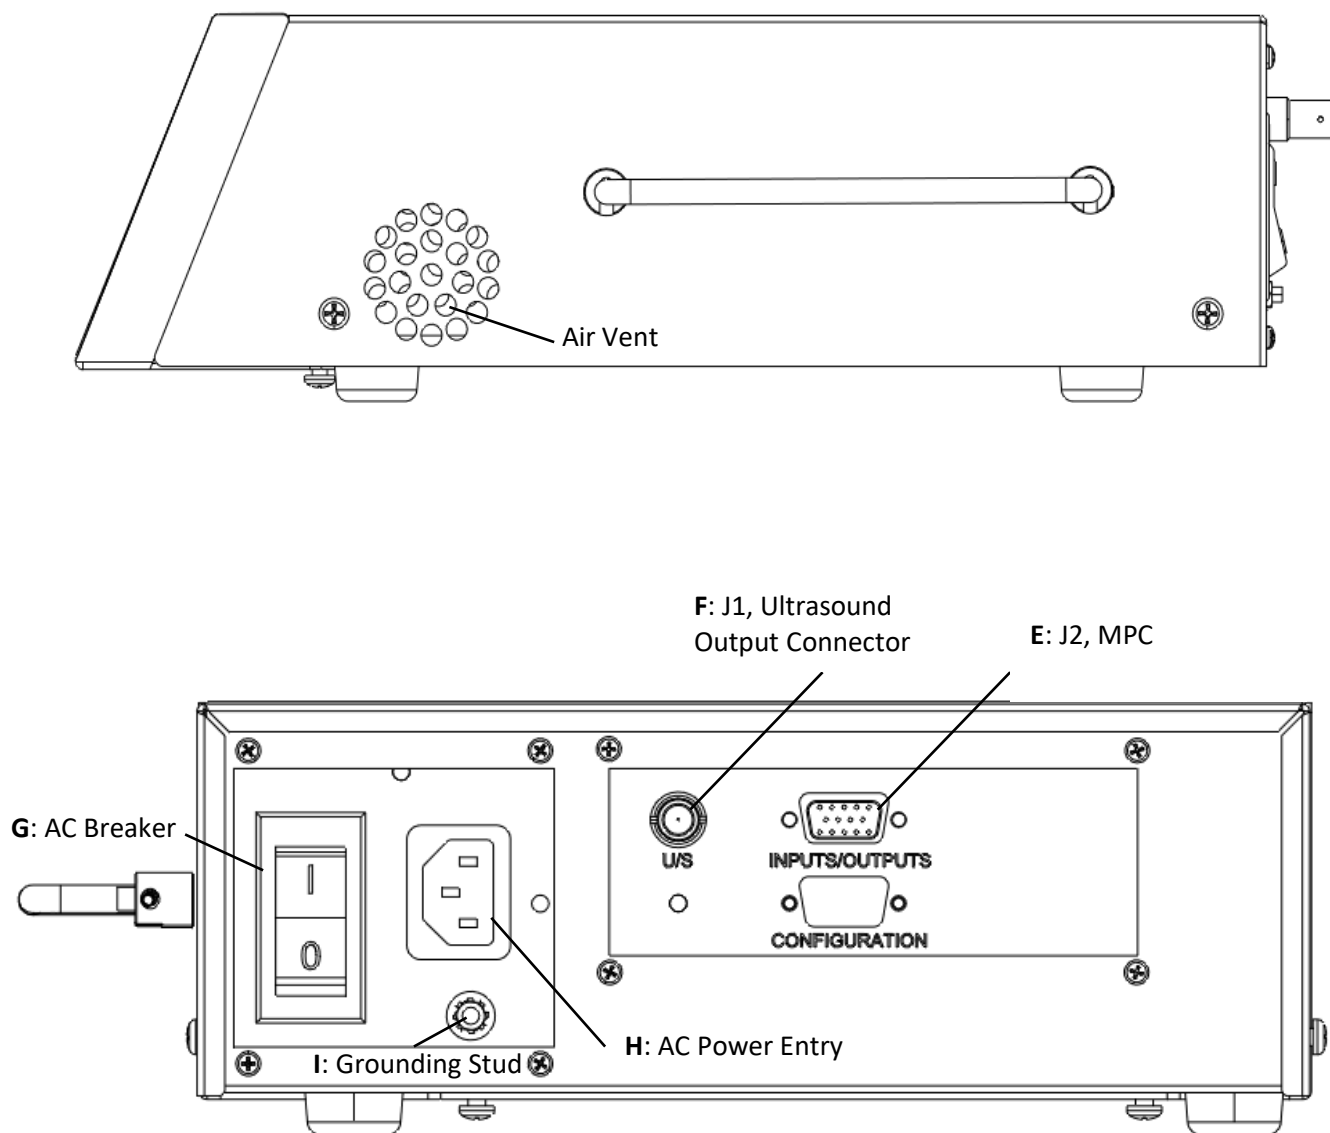

Figure 4. Side and Rear views of the generator.
In addition to the safety considerations previously mentioned, proper grounding of the generator power cord is recommended for the effective suppression of electrical noise or RFI (Radio Frequency Interference). Every ultrasonic generator contains a RFI filter which blocks noise on the AC power line from entering the system control circuitry. This filter also prevents ultrasonic frequency noise from being fed back into the AC power line. In order for the RFI filter to operate properly, it is necessary to correctly ground the system. For best results, you may additionally run a grounding wire from the ground stud connection (I in Fig. 4) to the nearest grounded metal pipe or equivalent earth ground and secure it with a ground clamp.
- Connect the supplied AC power cord to the generator's Power Cable Input (H in Fig. 4). Do not plug the cord into the power outlet yet.
- Ground the generator chassis with the supplied 14-gauge wire. Attach one end the grounding stud (I in Fig. 4) and attach the other end to the nearest grounded metal pipe or equal earth ground.
- Attach the ultrasound cable between the transducer and the Ultrasound Output Connector (**F** in Figure 4).
The Power Switch/Circuit Breaker (**G** in Fig. 4) has a rocker type actuator switch that will activate or deactivate the AC power to the system. The power **ON** position is marked with the internationally recognized **I** symbol, the power **OFF** position is marked with the **O** symbol. This power switch also integrates an appropriately sized over-current protection circuit breaker in the generator.
The Inputs/Outputs (I/O) connector (**E** in Fig. 4) includes connections for all basic generator control input and output signals that will typically be associated with an automated control system. A cable attached to this connector includes all available system control signals, which can be controlled by an output card or output port on a controller.
The Ultrasound Output Connector (**F** in Fig. 4) is a high-voltage (5,000 V) coaxial style SHV-BNC connector. This connector provides superior shielding of electrical noise compared to other types of connectors. The ultrasound output connector mates with a fully shielded coaxial ultrasound cable that is secured with a simple and reliable quarter-turn bayonet style attachment mechanism.
The Ultrasound Input Connector (attached to the Ultrasound Input Cable) is a SHV-BNC high-voltage connector. It provides superior shielding of electrical noise and mates with a corresponding connector on a fully shielded coaxial ultrasound cable that on the other side is attached to the SHV-BNC-type Ultrasound Output Connector on the generator (**F** in Figure 4).